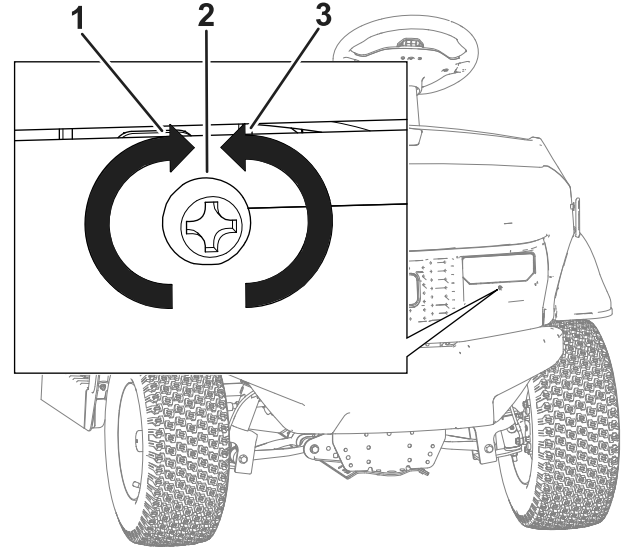

Figure 56
5. At the front of the headlight assembly, rotate adjustment screw to pivot the headlight assembly and align the position of the cast beam (Figure 56).